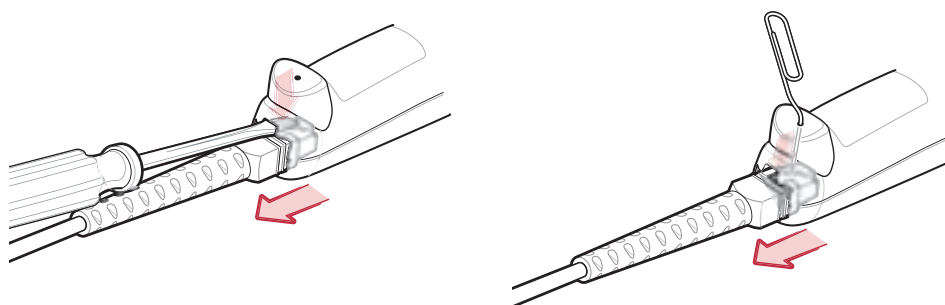

Figure 1-3
1. Unplug the installed cable modular connector by depressing the connector clip with the tip of a screwdriver, or a paper clip as shown in Figure 1-3.